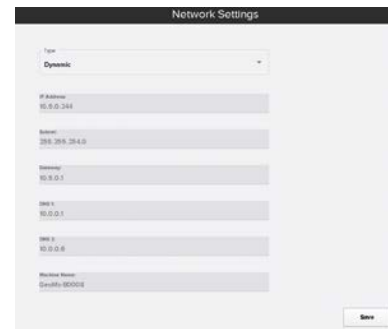

Figure 72: Network tab under Administration
The Network tab allows you to adjust network settings (see Figure 72). Select **Dynamic** or **Static IP Address** from the drop-down menu.
7. Browse to `https://geomx-####` where `####` is the GeoMx **Machine Name** you noted from the Network Settings window. In the example from this figure (see Figure 72), the address would be `https://geomx-dev7`.
8. If this does not work, your network may not pass on the GeoMx instrument name. In this case, enter the direct IP address. In the example from this figure (see Figure 72), the address would be `https://10.0.0.6`.